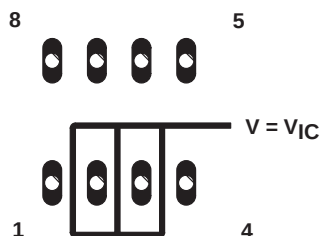
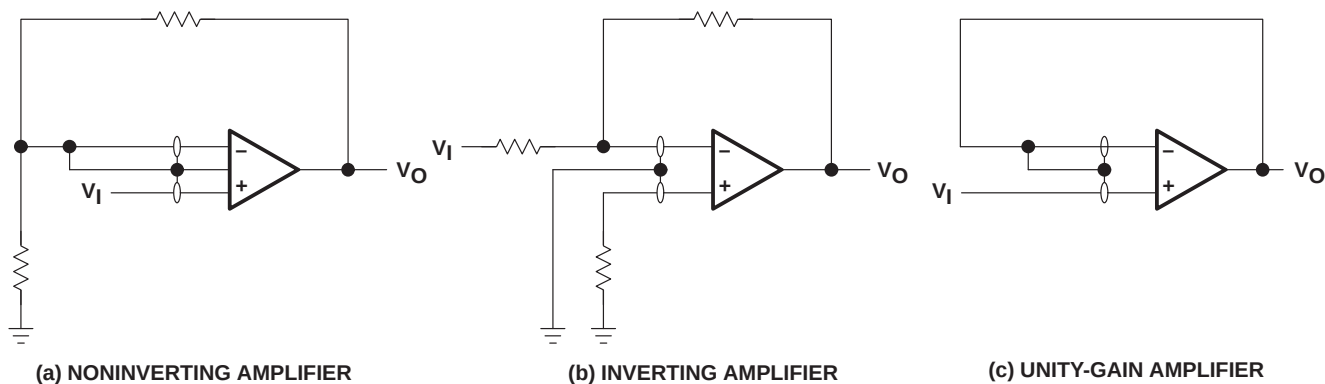

Figure 95. Isolation Metal Around Device Inputs (P package)
**Figure 101. Guard-Ring Schemes**
- Isolate the device from other potential leakage sources. Use a grounded shield around and between the device inputs (see Figure 95). Leakages that would otherwise flow to the inputs are shunted away.
Because of the extremely high input impedance and resulting low bias-current requirements, the TLV2341 is well suited for low-level signal processing; however, leakage currents on printed-circuit boards and sockets can easily exceed bias-current requirements and cause a degradation in device performance. It is good practice to include guard rings around inputs (similar to those of Figure 95 in the Parameter Measurement Information section). These guards should be driven from a low-impedance source at the same voltage level as the common-mode input (see Figure 101).